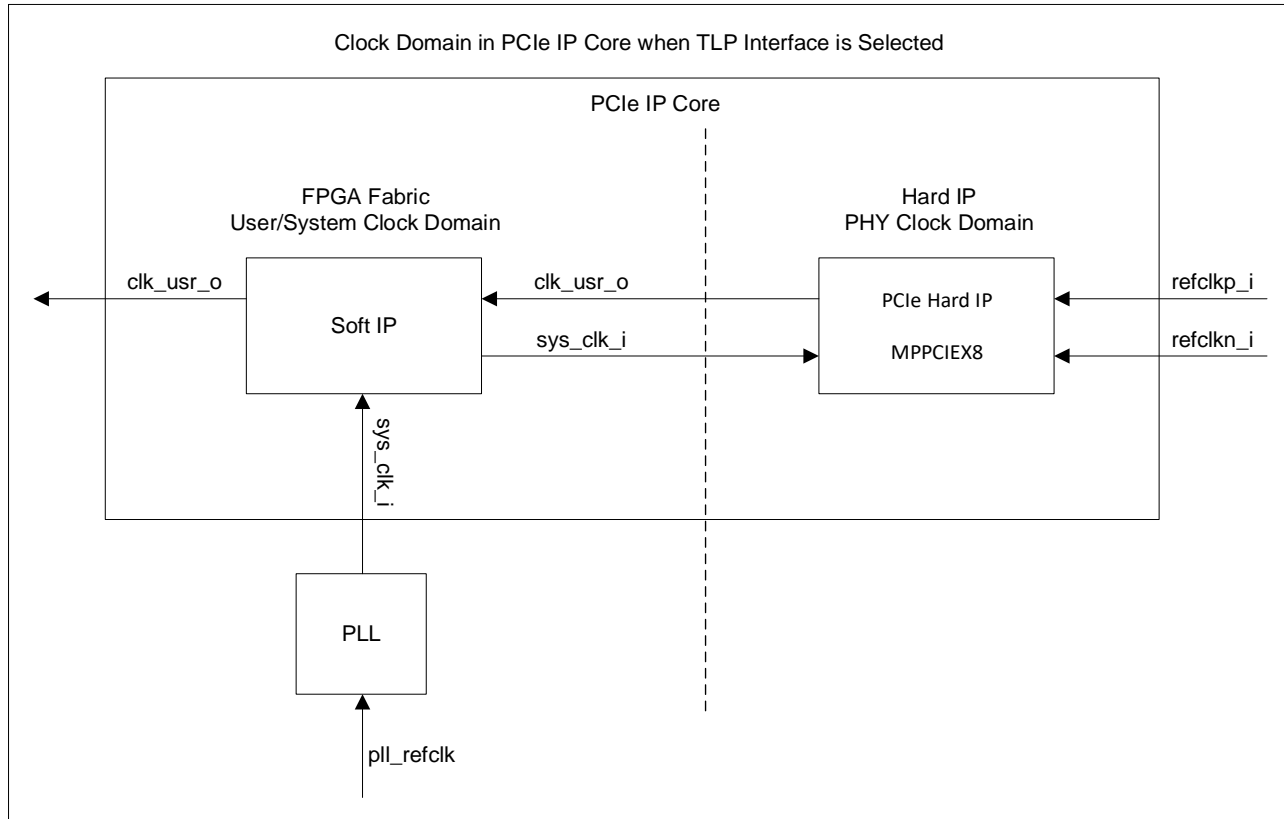

Figure 2.5. PCIe IP Clock Domain Block Diagram for TLP Interface
The PCIe x8 IP includes the following clock domains. The *sys_clk_i* and *clk_usr_div2_i* signals are generated during the PLL IP instantiation. For the TLP interface, you can connect *clk_usr_o* back to the *sys_clk_i*, as shown in Figure 2.5.
- For the TLP interface variants, you can choose to connect *clk_usr_o* back to the *sys_clk_i* as shown in Figure 2.5.